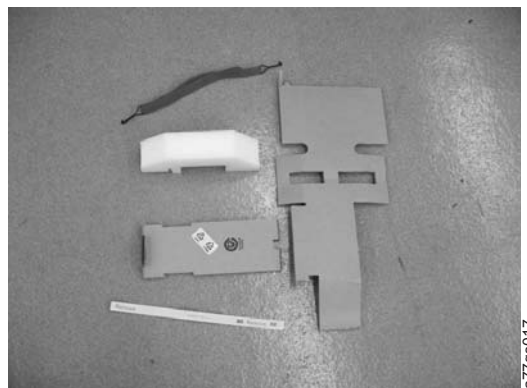

Figure 3-4. Packaging materials removed from library with the original-style picker
6. For libraries with the original-style picker, refer to Figure 3-4 and ensure that you removed all of the packaging material.